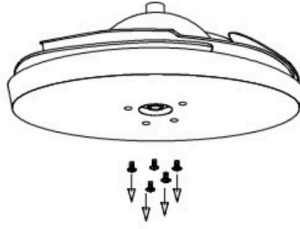

Fig. 5
Loosen the four screws located on the lower surface of the main body (9) of the fan and remove a screw for later use. Fig. 5